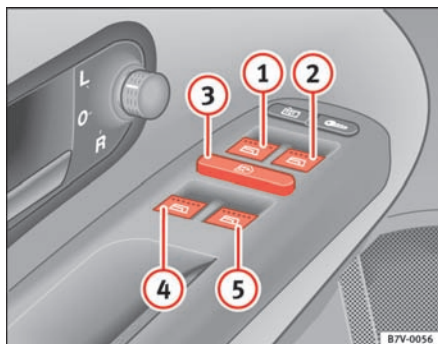

Fig. 64 Detail of the driver door: front and rear electric window controls
- Press button ⇒ fig. 64 ①, ②, ④ or ⑤ to open the corresponding window.
Safety switch ⇒ fig. 64 ③ in the driver door can be used to disable the electric window buttons in the rear doors.
The one-touch closing and opening of the electric windows can only be controlled with the switches on the driver's door. The buttons ⇒ page 100, fig. 64  and  have two levels for opening the front windows and two for closing. This makes it easier to open or close windows to the desired position.